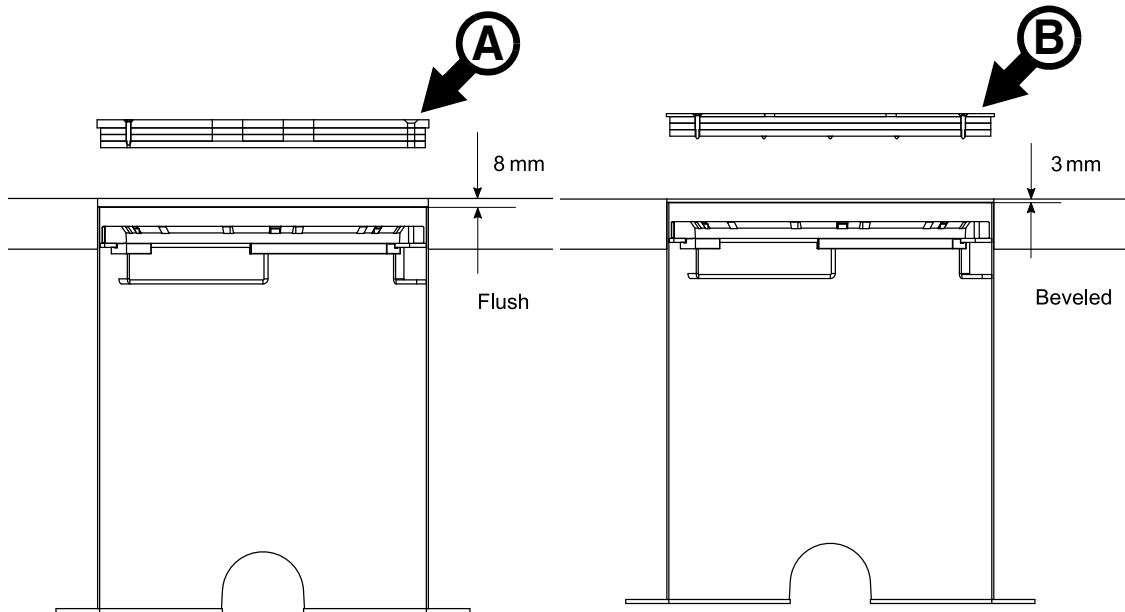

Figure 2: Installation lids for flush mount and beveled installation types
See Figure 2. Two types of lid are available: lid **A** is designed for flush top ring installations and lid **B** is designed for beveled top ring installations. The lids are designed to be fastened into the top of installation sleeves using three M6 bolts.
same level as the top of the installation lid. See Figure 2. The different thicknesses of the two installation lids allow for the different thicknesses of the flush mount and beveled top rings available for the Inground 400 range.
3. See Figure 2 on page 10. We recommend that the top of the installation sleeve sits: